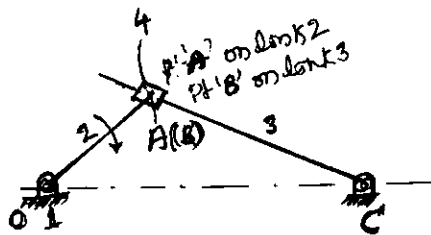

Fig.Q.3(b)
b. A quick return motion mechanism is shown in Fig.Q.3(b). Link 2 rotates with constant speed of 21 rad/sec. in CW direction. Determine the angular acceleration of link 3. Take $OA = 150\text{mm}$, $OC = 350\text{mm}$, $CB = 250\text{mm}$. (12 Marks)